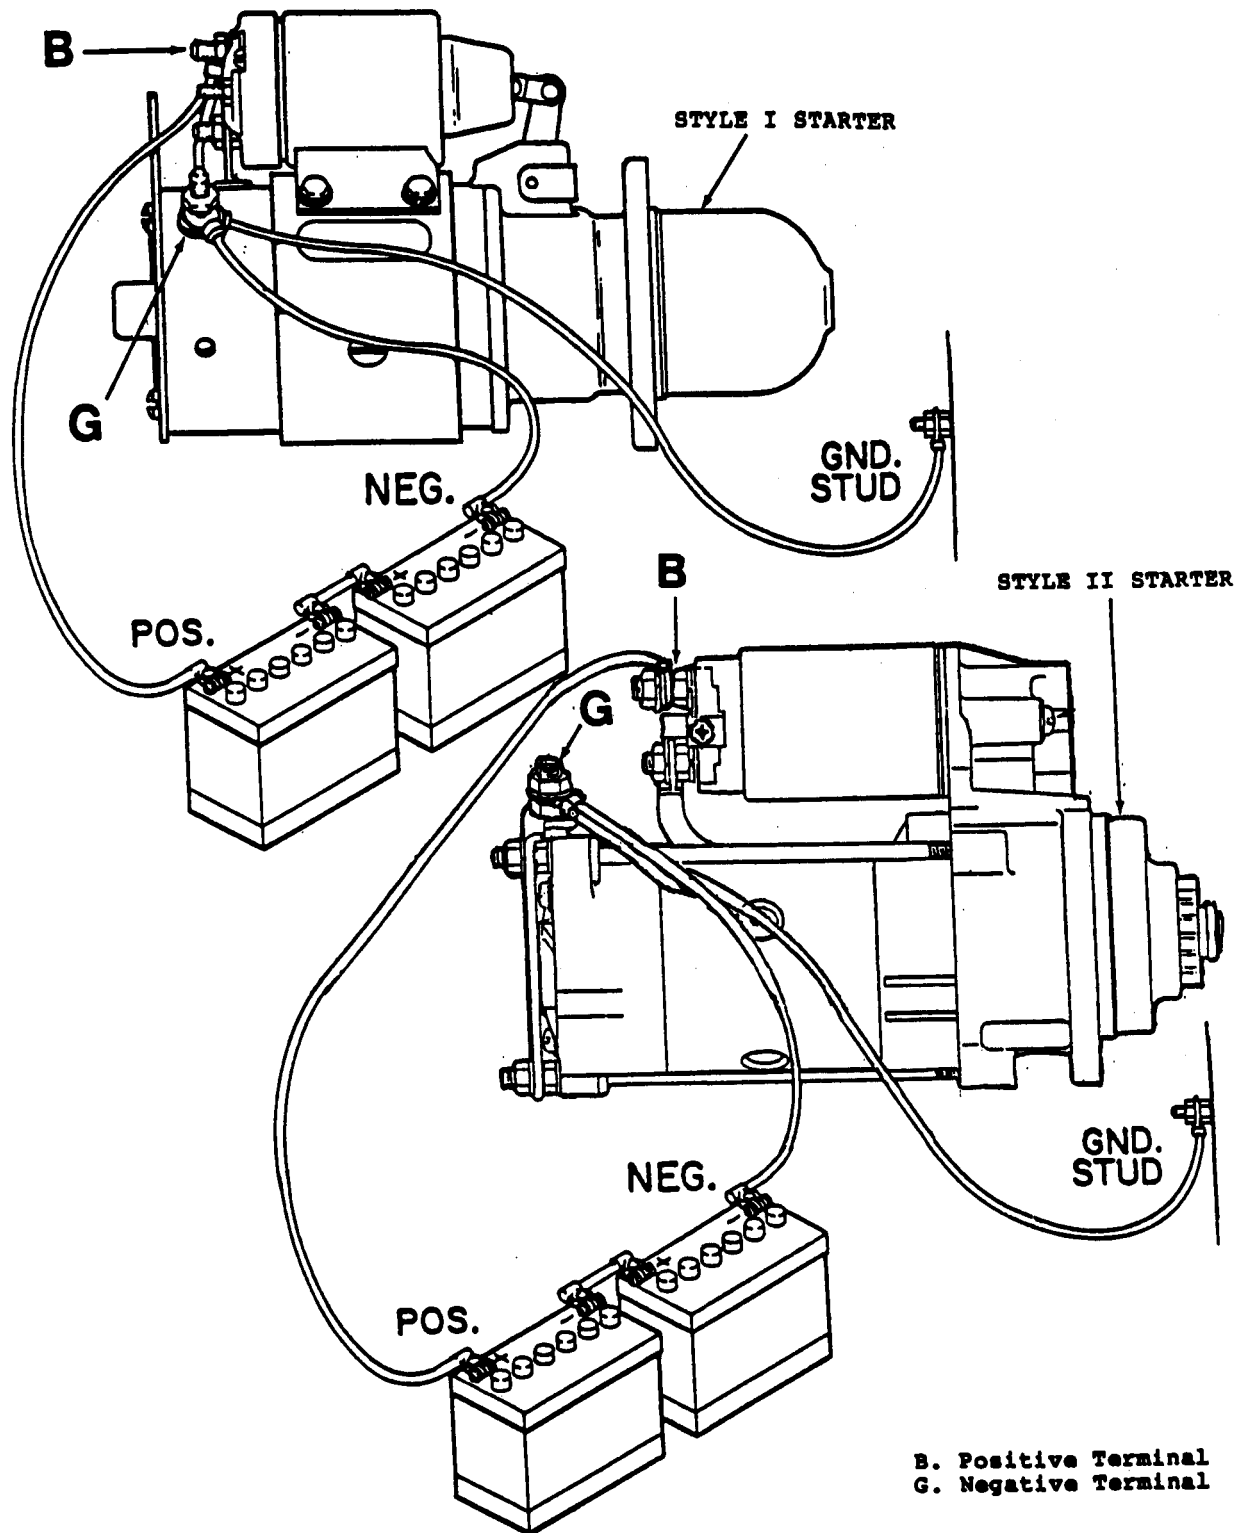

Figure 4-16. Installing Battery Cables.
(3) Replace. Attach jumper cable between negative (-) terminal of one battery and positive (+) terminal of the other battery. Attach positive battery cable to the "B" Terminal stud on starter solenoid. Attach negative battery cable (-) to the ground terminal "G" of the starter. See figure 4-16. Attach positive cable (+) to positive terminal on one battery and negative cable (-) to negative terminal on the other battery. Tighten all terminal connectors securely.